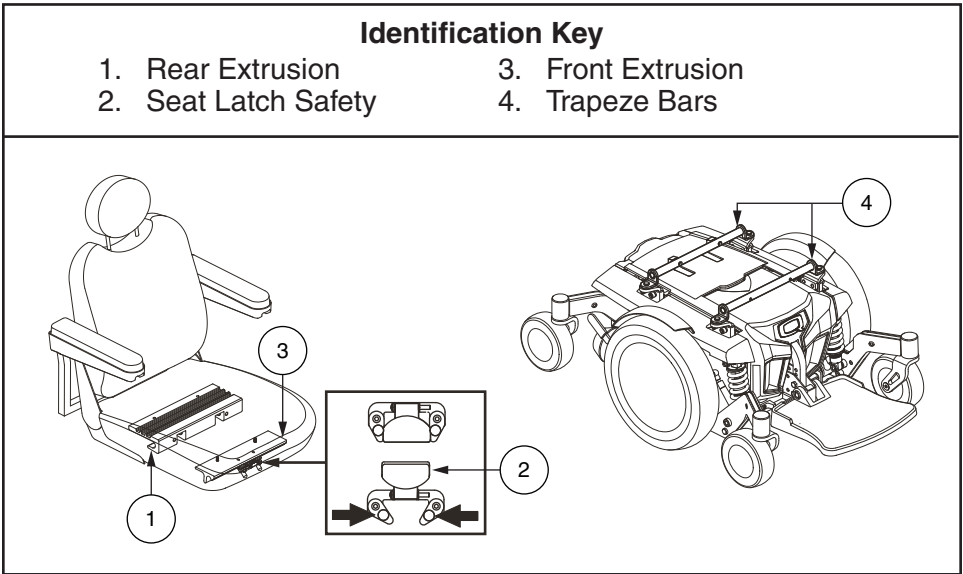

Figure 6. Universal Mounting System and Contour Seat
It may be necessary to install the seat either prior to initial operation or after transporting your power chair. Contour seats are attached to the power base with the Universal Mounting System (UMS). The UMS consists of universal parts that may be attached to the seat, regardless of seat width or seat depth. The two main components are aluminum extrusions mounted to the seat base. These extrusions attach to a pair of trapeze bars that are mounted to the power base. **See figure 6.**
1. Tilt the seat back and slide the rear extrusion onto the rear trapeze bar. **See figure 6.**
4. Flip up the seat latch safety. **See figure 6.**